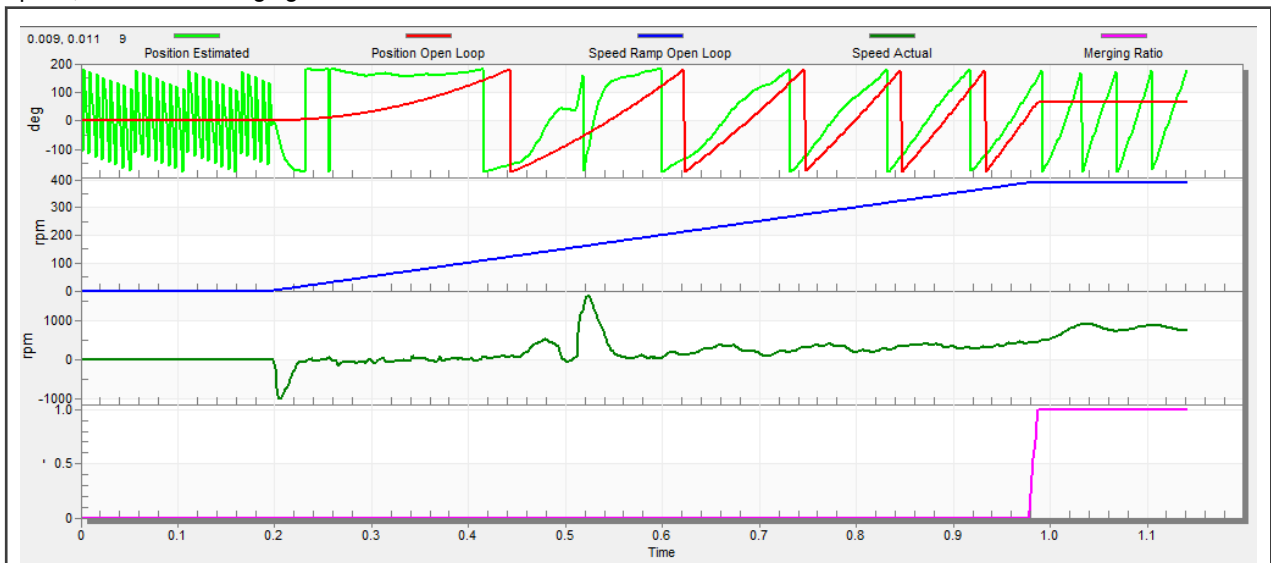

Figure 34. Motor startup
1. The start-up process can be tuned by a set of parameters located in the “Sensorless” tab. Two of them (ramp increment and current) are accessible in both tuning modes. The start-up tuning can be processed in all control modes besides the scalar control. Setting the optimal values results in a proper motor startup. An example start-up state of low-dynamic drives (fans, pumps) is shown in Figure 34.